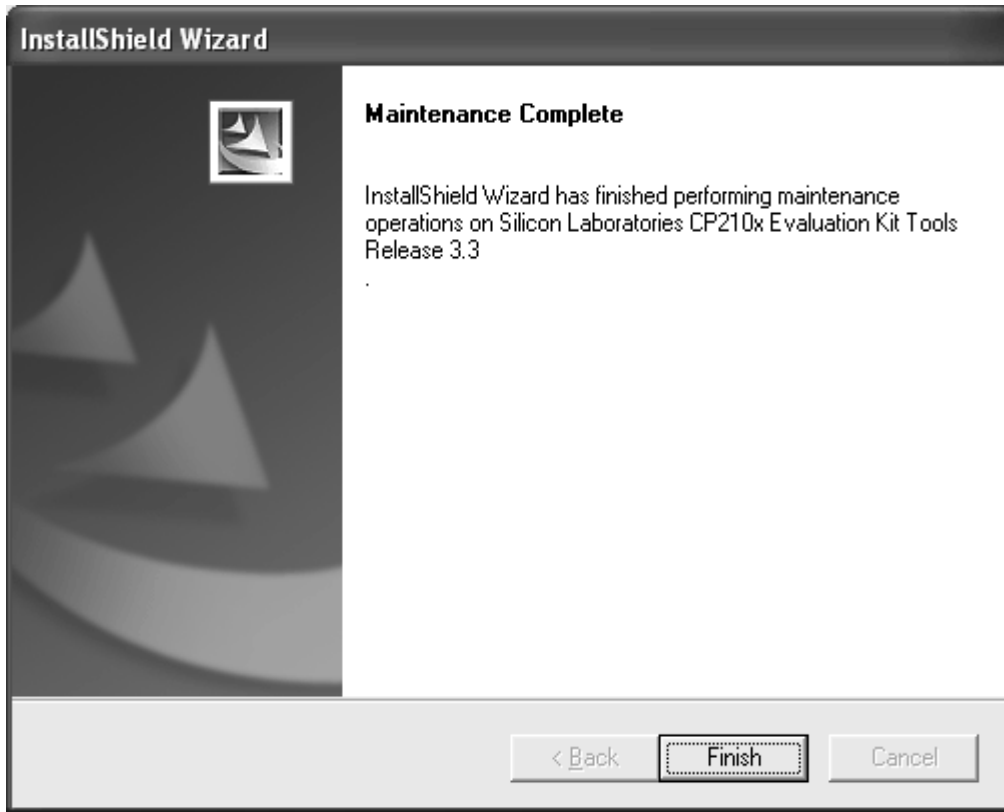

Fig. 81 Uninstallation Complete
(8) Click **OK** to start uninstallation. When the uninstallation is completed, the screen shown in Fig.81 appears. Click **Finish**.